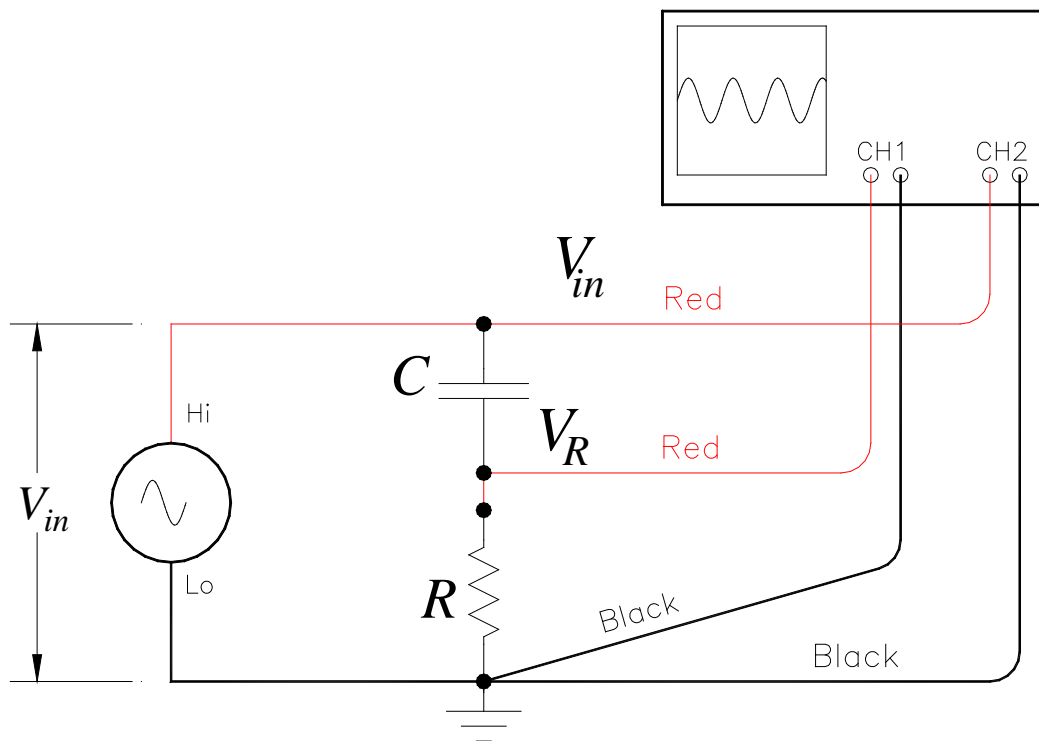

Figure 6 Wiring diagram showing how to swap the places of R and C to measure V_R .
2) Make a data table with columns for frequency f , V_{in} , Div, Volts/Div, V_C , Div, Volts/Div, and V_R . Using the Measure menu, set up the oscilloscope to measure the frequency on CH2 and the Volts peak-to-peak on CH1 and CH2. Set the frequency of the function generator to 100Hz, adjust the amplitude on the function generator until V_{in} (CH2) is 8.00V. Record the voltage on the capacitor V_C .(CH1) and the frequency from the oscilloscope Text Menu windows. To measure the voltage on the resistor you need to swap the place of resistor and capacitor. This can be easily accomplished by swapping the function generator and CH2 leads with the ground leads. See Figure 6. Record the voltage across the resistor V_R . (CH1) Remember that the oscilloscope only measures voltages with respect to the potential source of ground. Whichever component has one side connected to ground determines the voltage you are measuring. (This is analogous to how your measured the voltages on the two resistors in *Introduction to the Digital Oscilloscope*.) Also you may need to change the Volts/Div to get an amplitude of $> 3.3Div$ so that the Measure function can accurately record the amplitude.